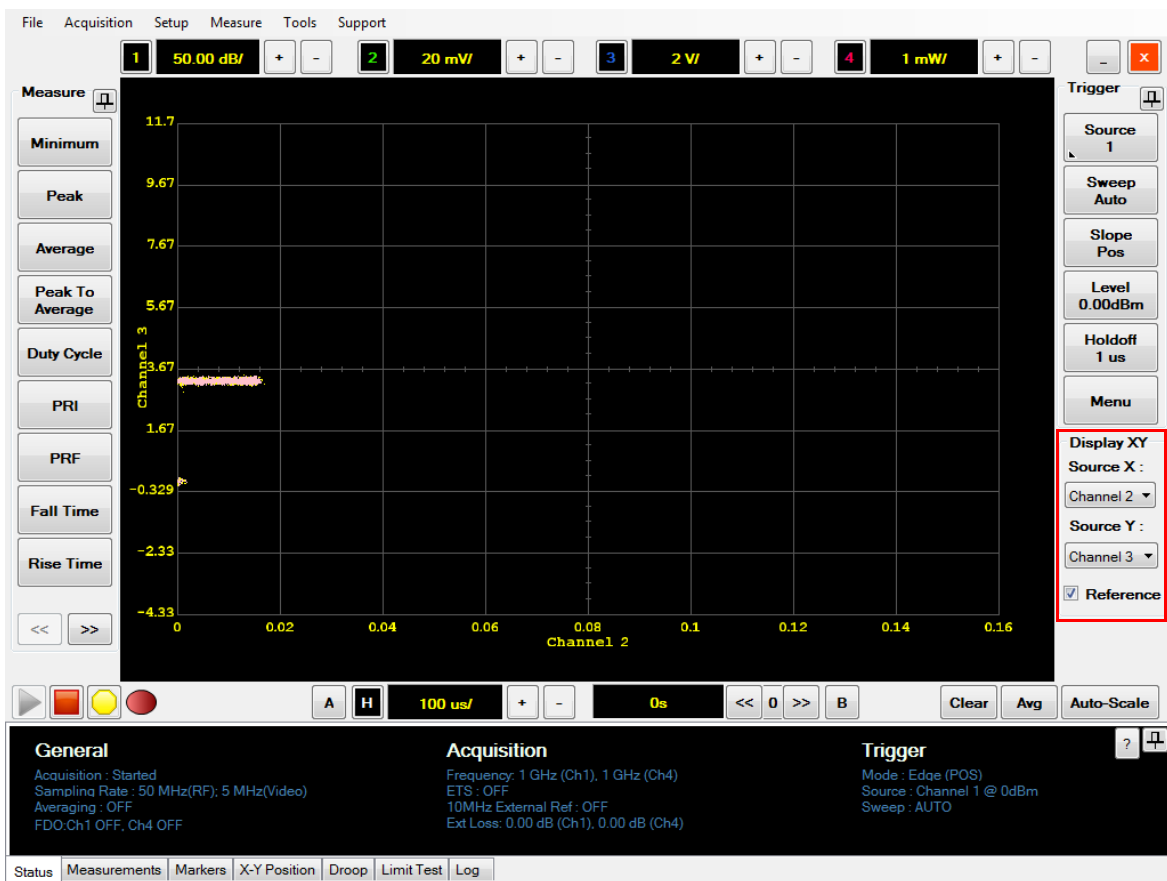

Figure 2-100 Display XY mode
- 2 An example of the Display XY mode is as shown in Figure 2-100.